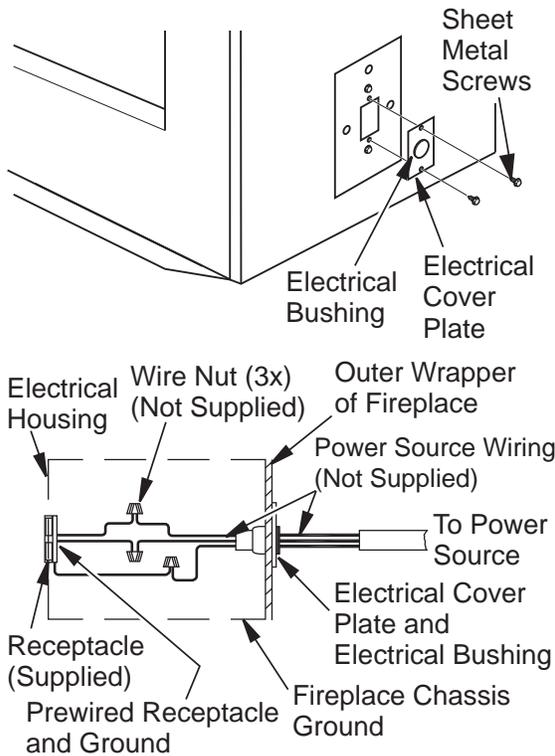

Figure 12 - Fan Switch-Electrical Bushing
1. Remove electrical cover plate with bushing from fireplace by removing 2 sheet metal screws as shown in **Figure 12**.
3. Slide all wiring connections in electrical housing as shown in **Figure 12**.